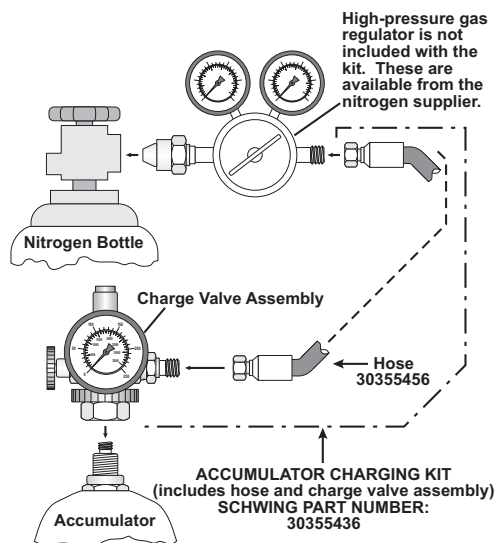

Figure 15
1. Before you begin, you will need a charging kit (Figure 15). Do not attempt to charge the accumulators without one. Order the charge valve kit assembly from the SCHWING Service Center using part number 30355436.